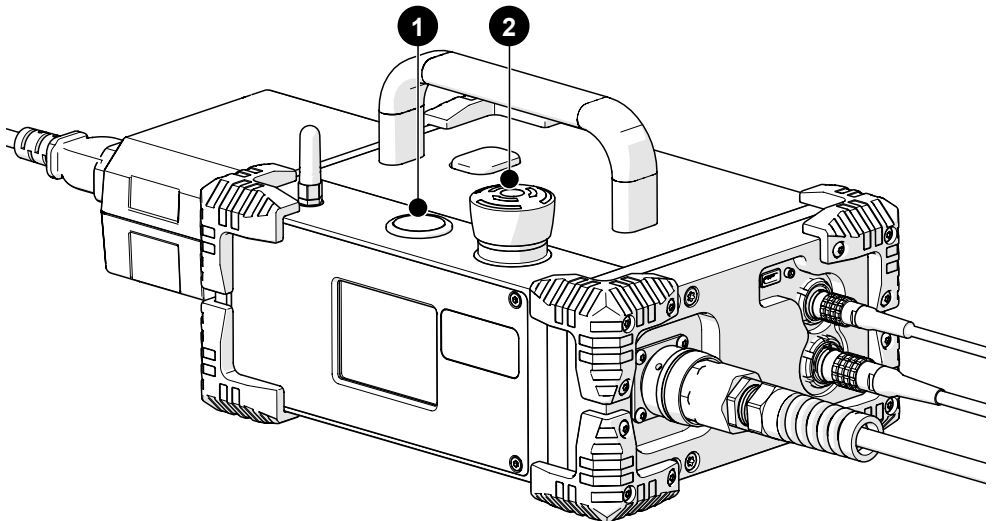

Fig. 196 - System controller
3. Locate the **2** red off push-button on the system controller. Rotate this button clockwise to unlatch (Fig. 196).
- The **1** power button (Fig. 196) on the system controller activates the system.